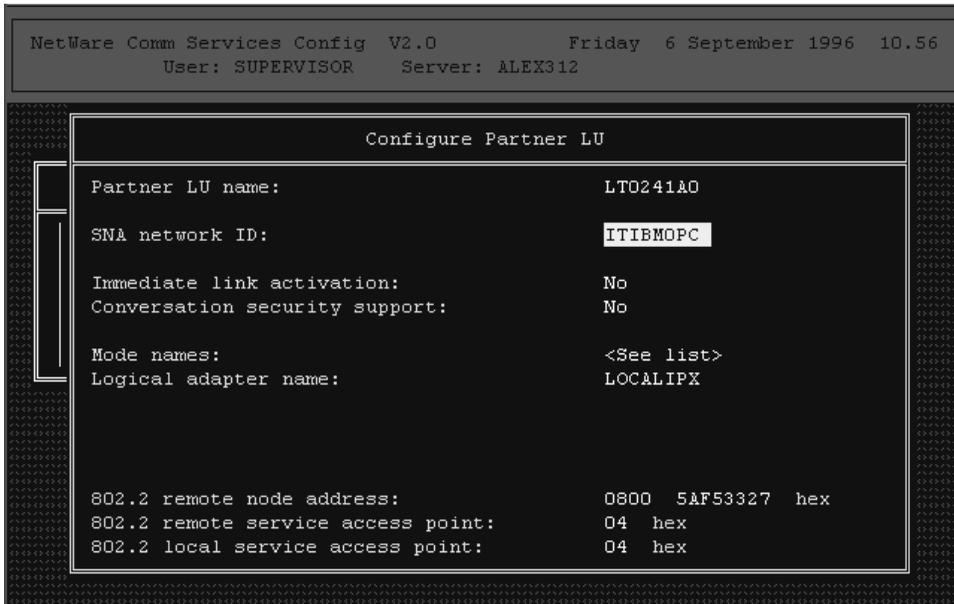

Figure 23. Selecting a partner LU
- 5 Select each partner LU for which you want to configure SNA communications, as shown in Figure 23 on page 102.